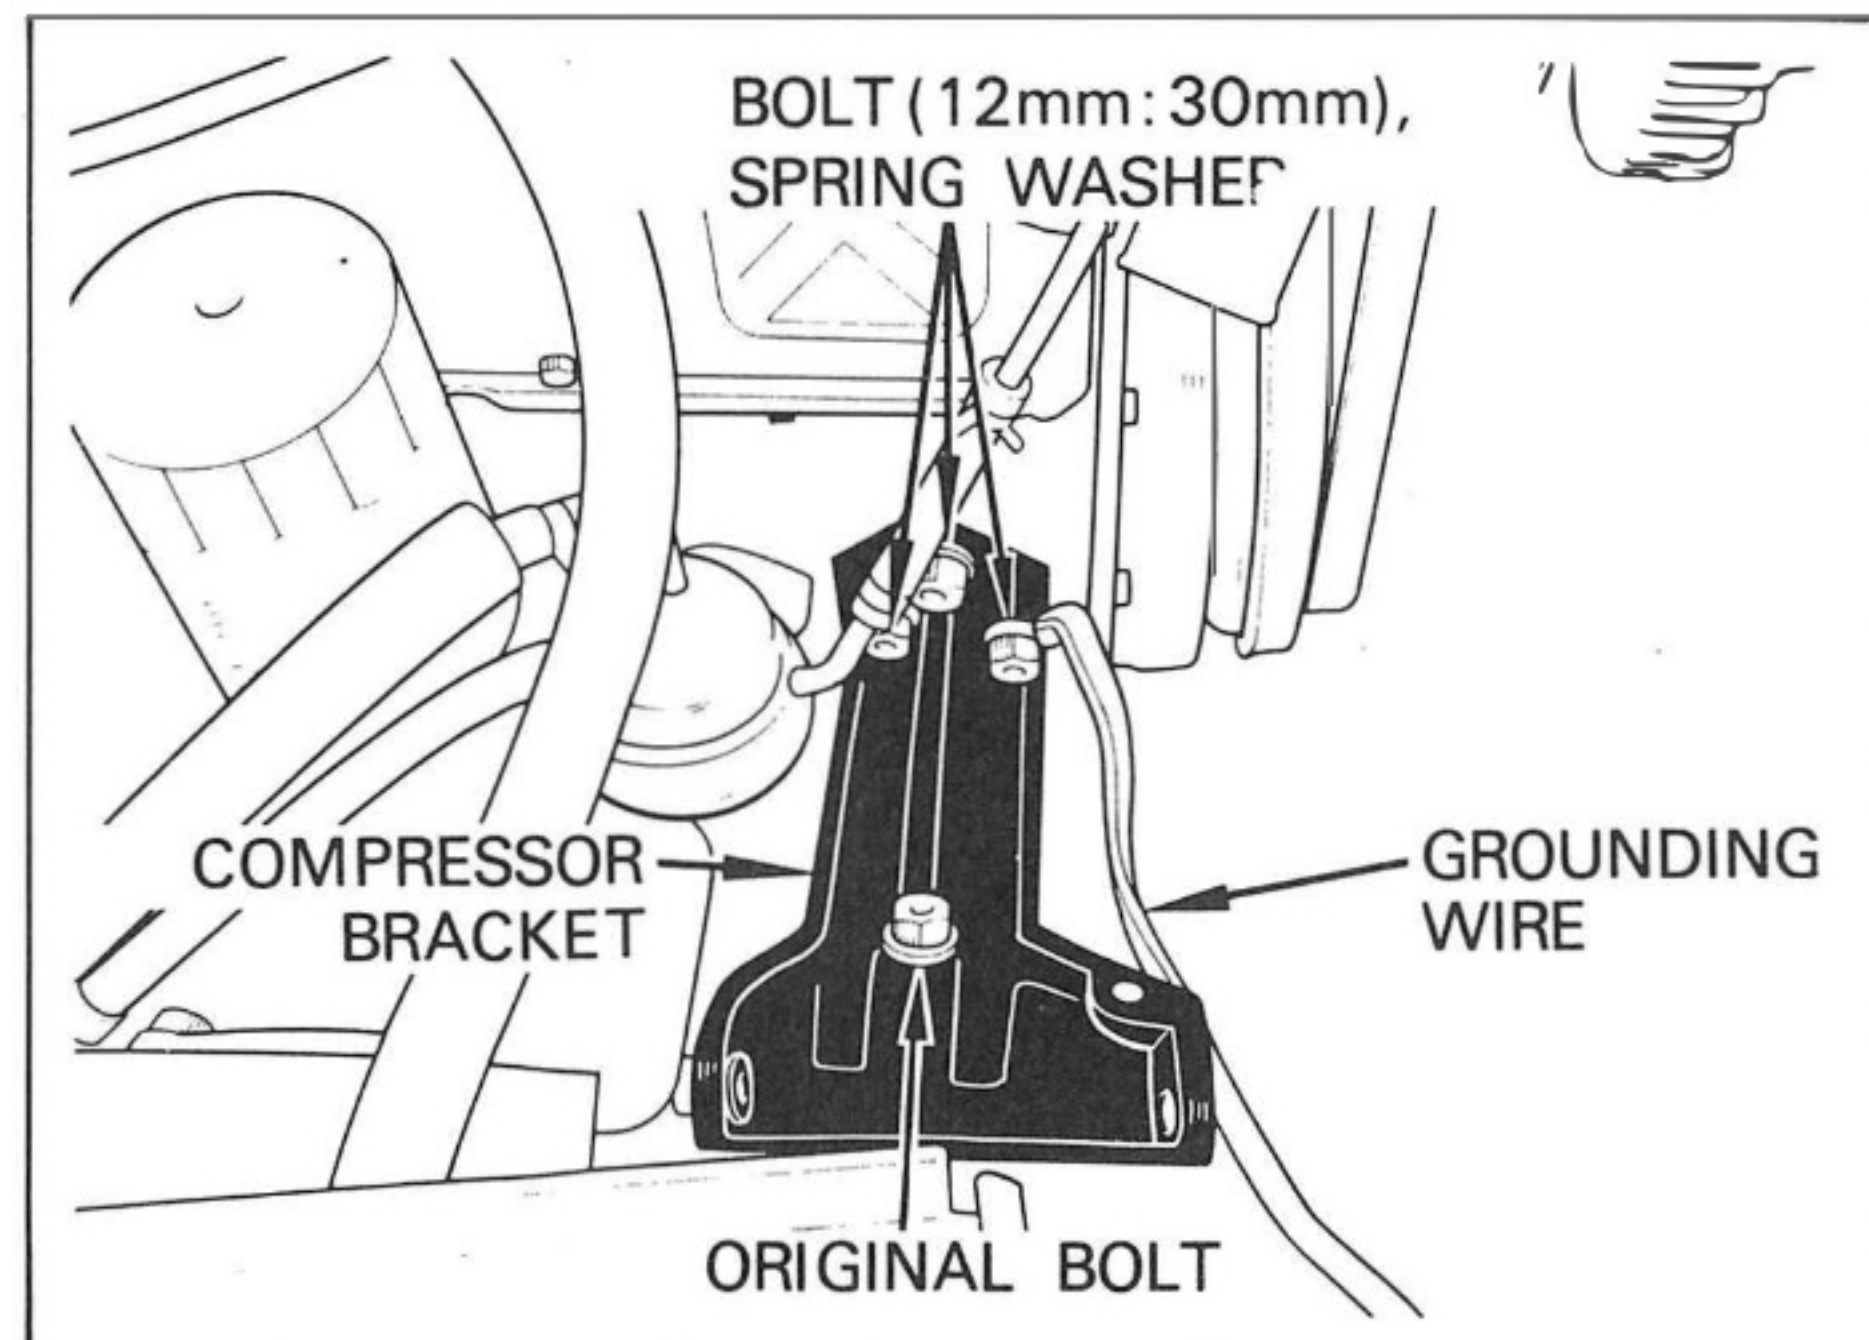
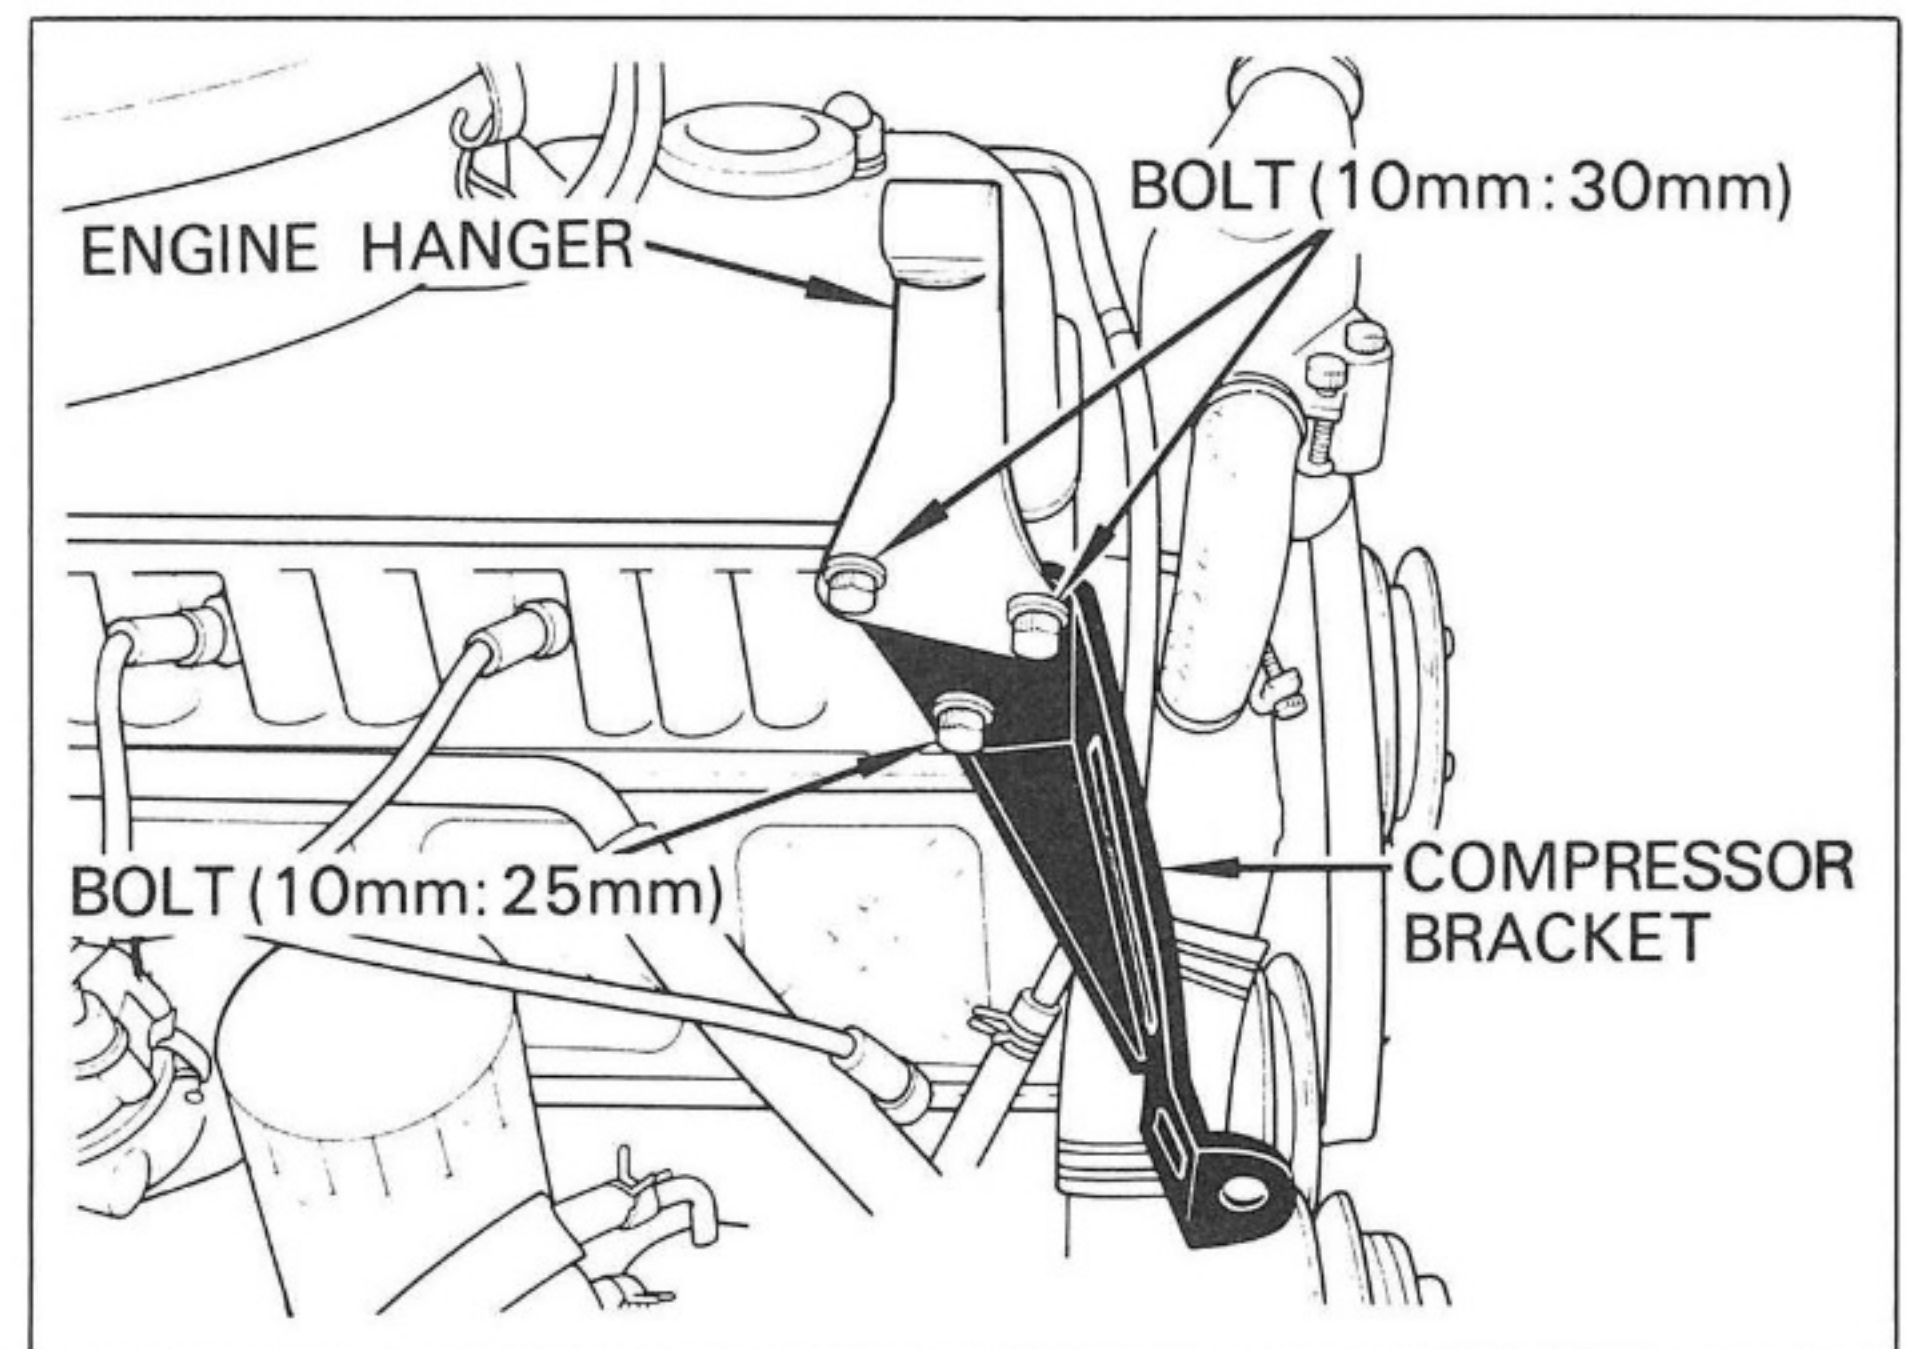

Fig. 16
Fig. 17
- A) Install the compressor upper bracket and the original engine hanger to the engine using three threaded holes. See Fig. 16 & Fig. 17.